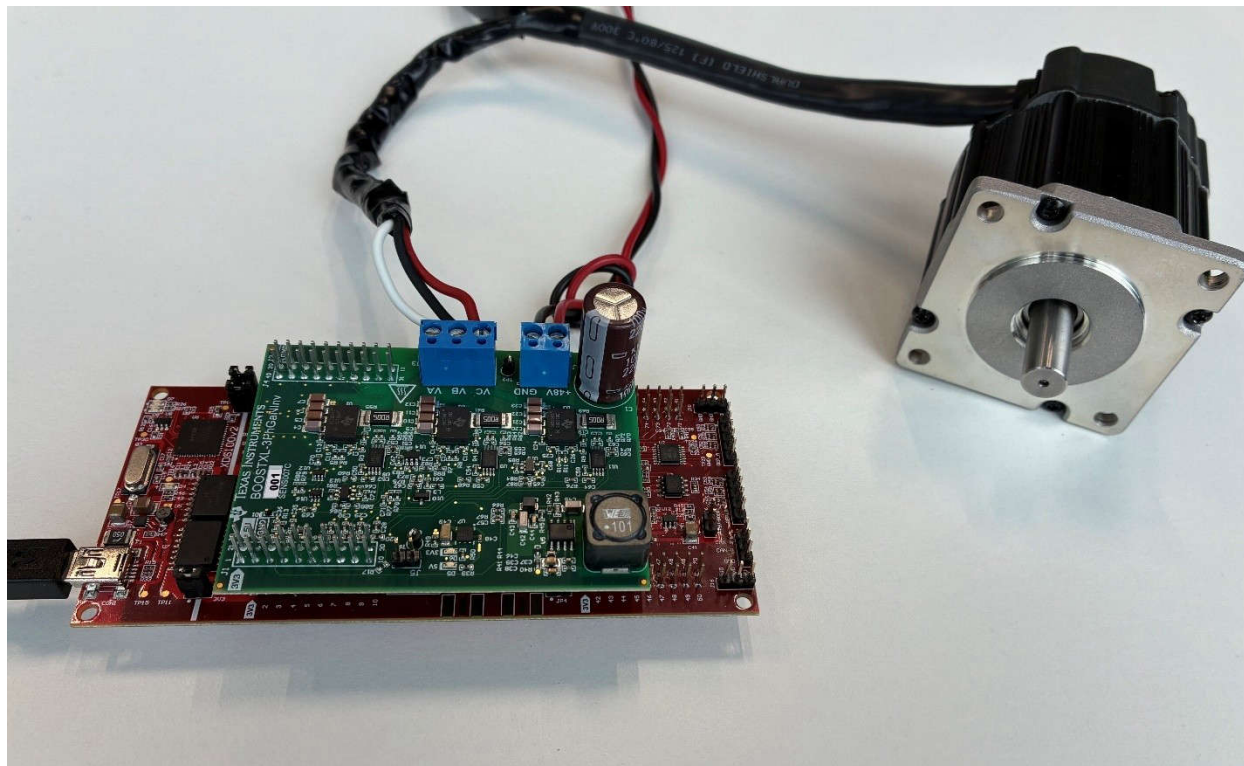

Figure 2-1. LAUNCHXL-F28379D , BOOSTXL-3PHGANINV, and LVSERVOMTR, Supported by Mathworks' Simulink Model-Based Implementation of Sensorless FOC.
Use the following steps to obtain the Simulink model-based implementation of sensorless FOC running on the commercially available development kit based on LAUNCHXL-F28379D , BOOSTXL-3PHGANINV, and LVSERVOMTR (Figure 2-1) from Texas Instruments (TI).